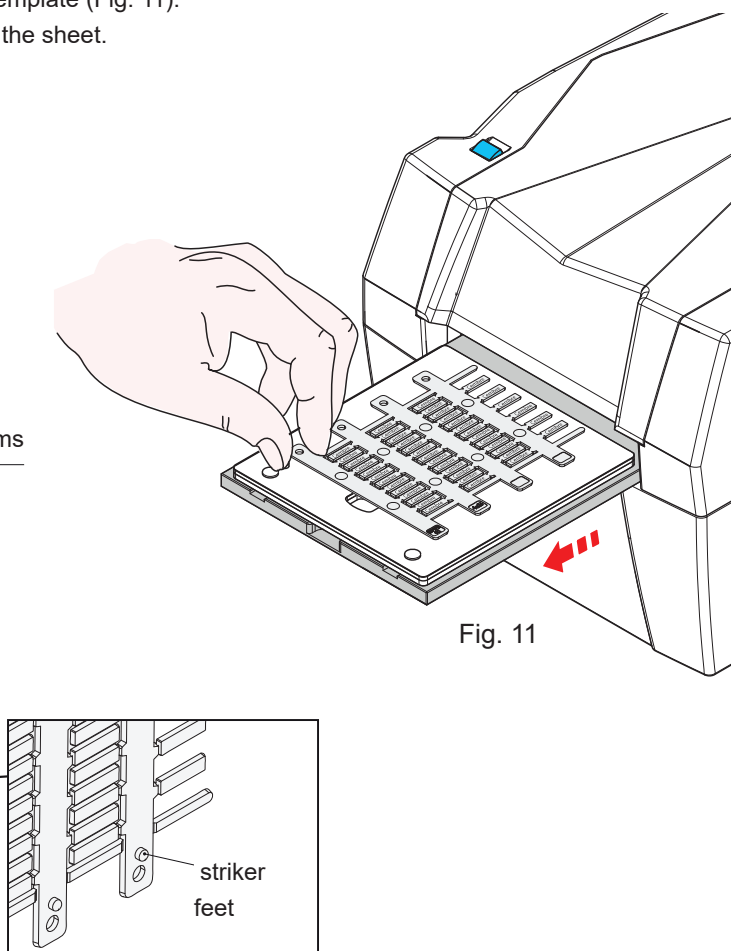

Fig. 11
1. The mobile carriage (1) retracts inside the printer.
2. The sheet is printed, then the carriage protrudes (1).
3. Manually remove the printed sheet from the template (Fig. 11).